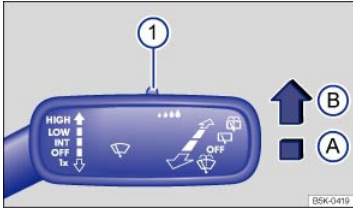

Fig. 93 Windshield wiper lever: Adjusting the rain sensor ① (if equipped).
When switched on, the rain sensor automatically shortens or lengthens the time between wiping intervals depending on how hard it is raining ⇒ Introduction to the subject. The rain sensor's sensitivity can be adjusted manually ⇒ Fig. 93①.
Push the lever into the desired position ⇒ Fig. 93 :